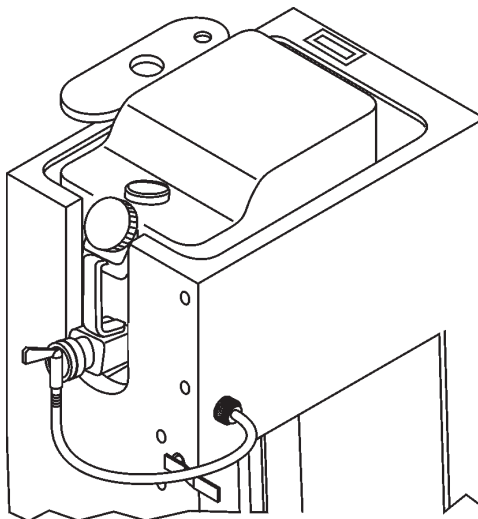

Figure 18. On-board Water Tank Hose Connection
The Cutter 3 saw is equipped with a removable 5-gallon on-board water tank fitted in the top of the console which can be connected to the brass hose fitting on the rear of the operators console (Figure 18).
4. Ensure the water tank is filled to capacity (18.95 liters/5 gallons). Connect the water tank hose to the water system brass fitting on the rear of the console (Figure 18) and test for adequate water flow to the diamond blade before operation. When ready to start cutting, turn the water on.